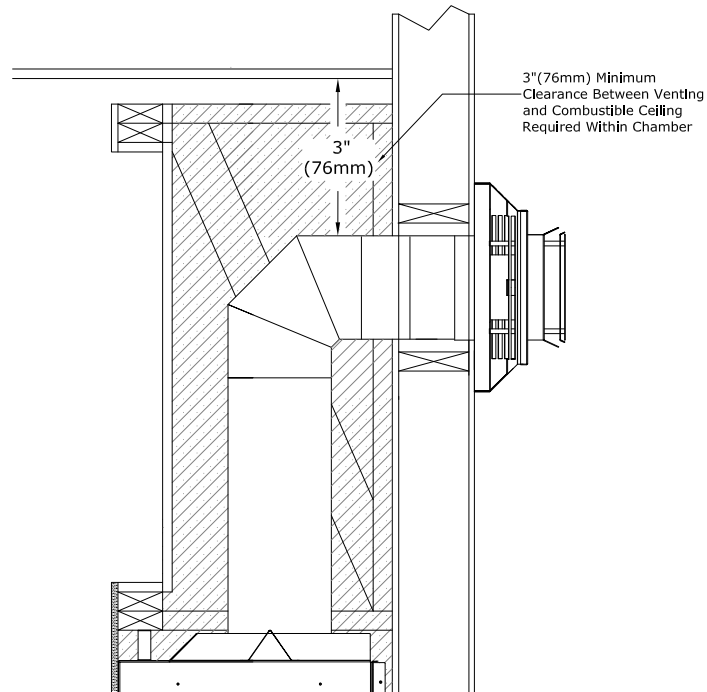
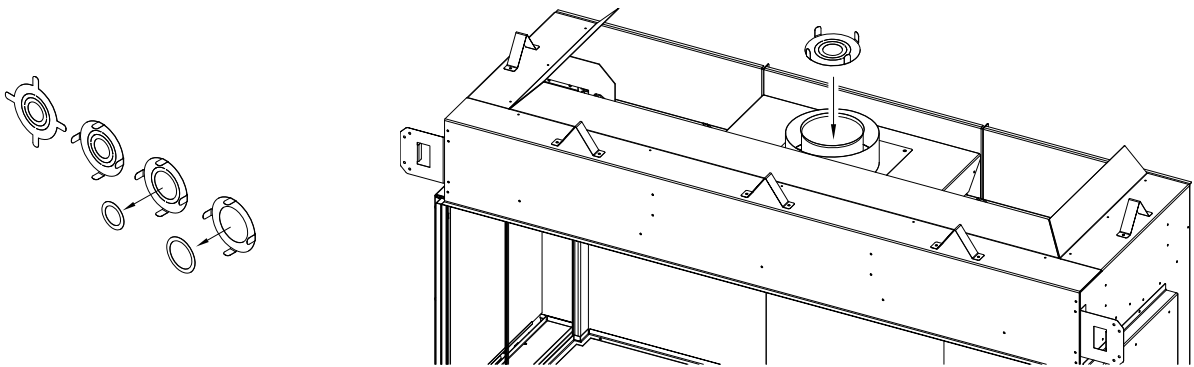

Figure 6.3 - Horizontal Vent Pipe Clearance Inside the Fireplace Enclosure
Figure 6.4 - Vent Restrictor
- Any horizontal pipe within the fireplace chamber must have a minimum clearance of 3" (76mm) from the top of the vent pipe to the chamber top. See Figure 6.3.
- The restrictor plate is shipped with all inner rings intact, and when installed, provides the most vent restriction. There are (2) inner rings that can be knocked out. As you knock out and remove an inner ring you have less vent restriction where removing both inner rings you will have the least amount of vent restriction.
- Follow Figure 6.4 for restrictor plate installation before attaching venting or through the baffle if venting is already attached. For vent restriction plate recommendations and adjustments, see section 10.2.3, Vent Restriction (after installation).
Figure 6.3 shows the minimum clearance the top of the vent pipe must maintain through the entire fireplace chamber. Figure 6.4 shows how to install the vent restrictor before vent pipe installation. Refer to Section 6.4.